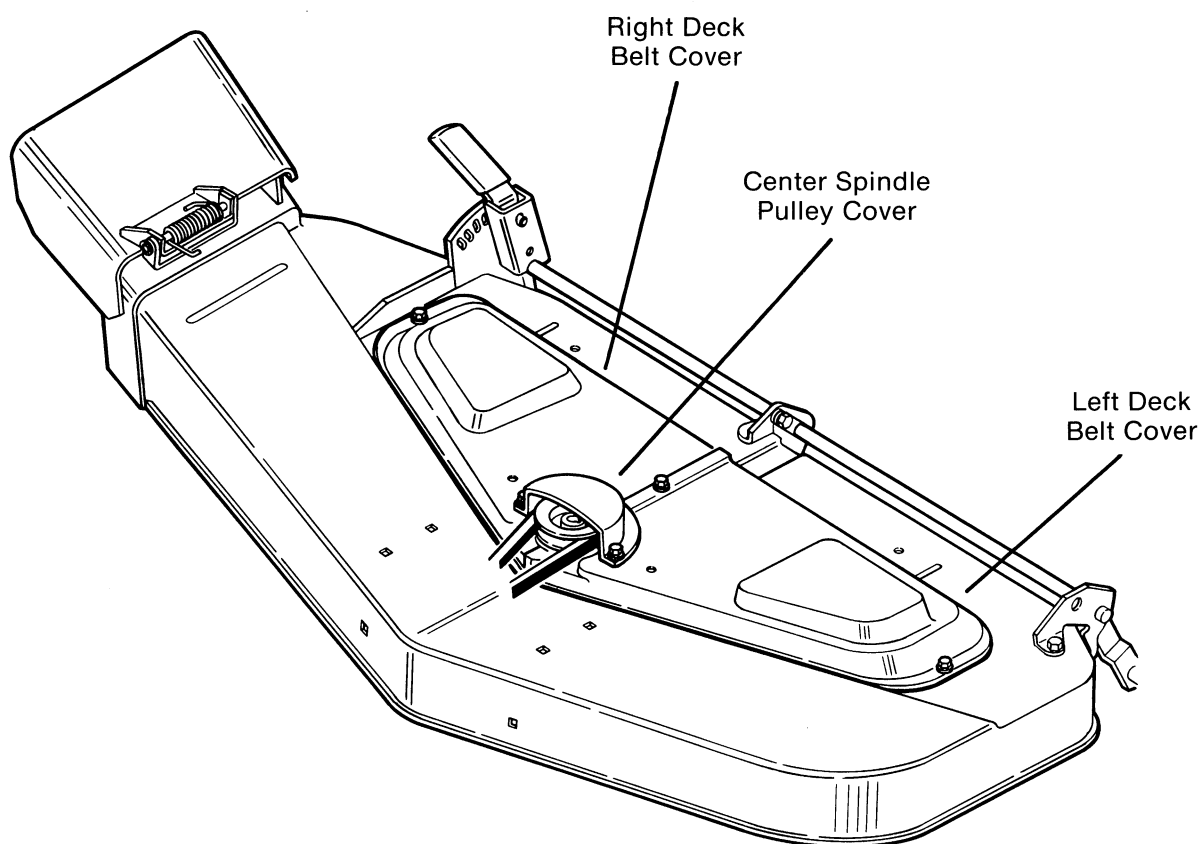

FIG. 18
- D. Remove cover from center spindle pulley, (Fig. 18) by removing three capscrews and lockwashers.
- G. Reinstall cover over center spindle pulley and secure with hardware removed in step "D". (Fig. 18)
- B. Remove cover from center spindle pulley, (Fig. 18) by removing three capscrews and lockwashers.
- C. Remove left main deck belt cover by removing five capscrews and lockwashers. (Fig. 18)
- B. Remove center spindle pulley cover and right and left main deck covers. (Fig. 18)
- J. Reinstall right and left main deck covers then center spindle pulley cover. (Fig. 18)